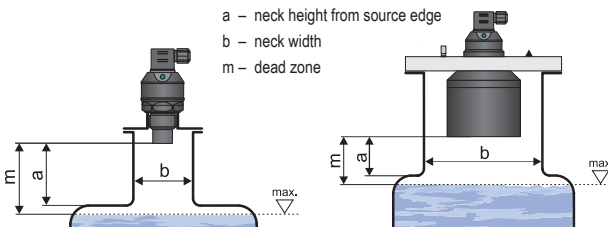

Fig. 4: Installation of the device in the installation neck
- f) If the maximum level in the tank gets into the dead zone, the device shall be mounted into a higher **installation neck**. The tank can be then filled nearly up to the maximum volume. The neck's inner surface shall be even and smooth (without edges and welded joints), the inner edge should be rounded in the spot where the ultrasonic wave leaves the pipe. Choose the largest possible neck diameter, but keep the neck height as low as possible. The recommended dimensions of the inlet neck are listed in Fig. 4.